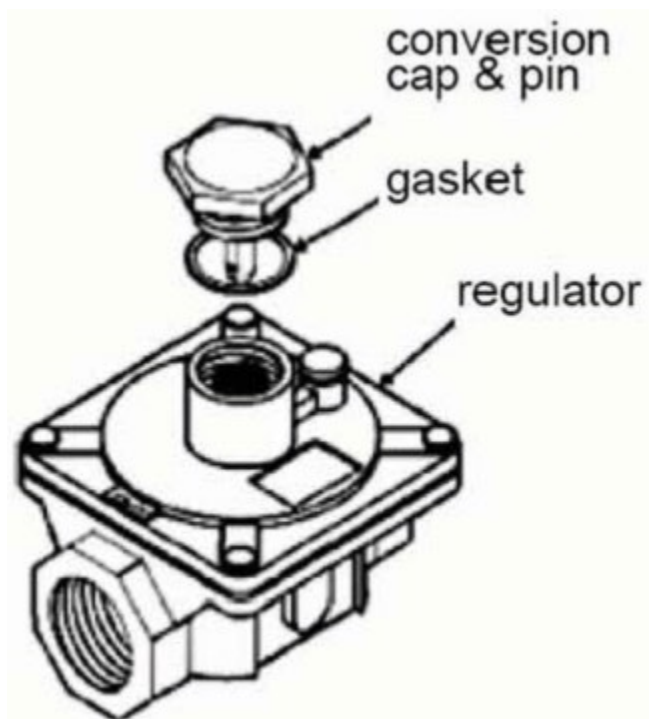

fig. 1 Gas pressure regulator
7. To operate with LPG gas, the regulator must be changed to operate at 10" WC. (see fig.1) To do this, remove the converter cap and pin from the regulator, remove the pin and invert then reinstall in the cap. Replace the cap on the regulator taking care that the gasket is in place on the cap.